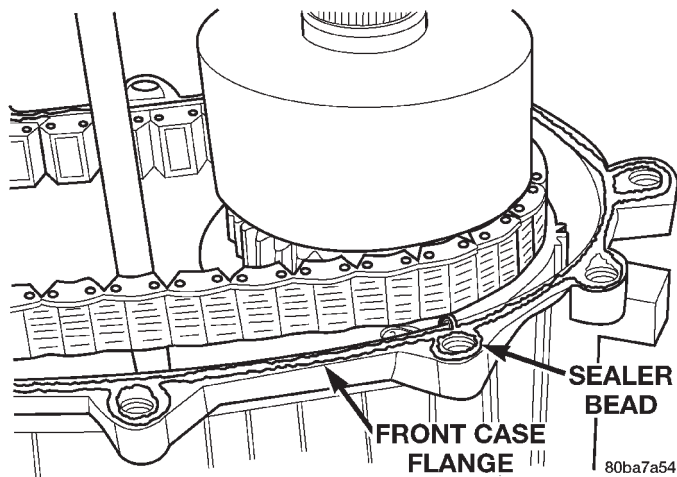

Fig. 65 Applying Sealer To Front Case Flange
(10) Clean sealing flanges of front case and rear case with a wax and grease remover.
(11) Apply 3 mm (1/8 in.) wide bead of Mopar® gasket maker or silicone adhesive sealer to mounting flange of front case. Work sealer bead around bolt holes as shown (Fig. 65).